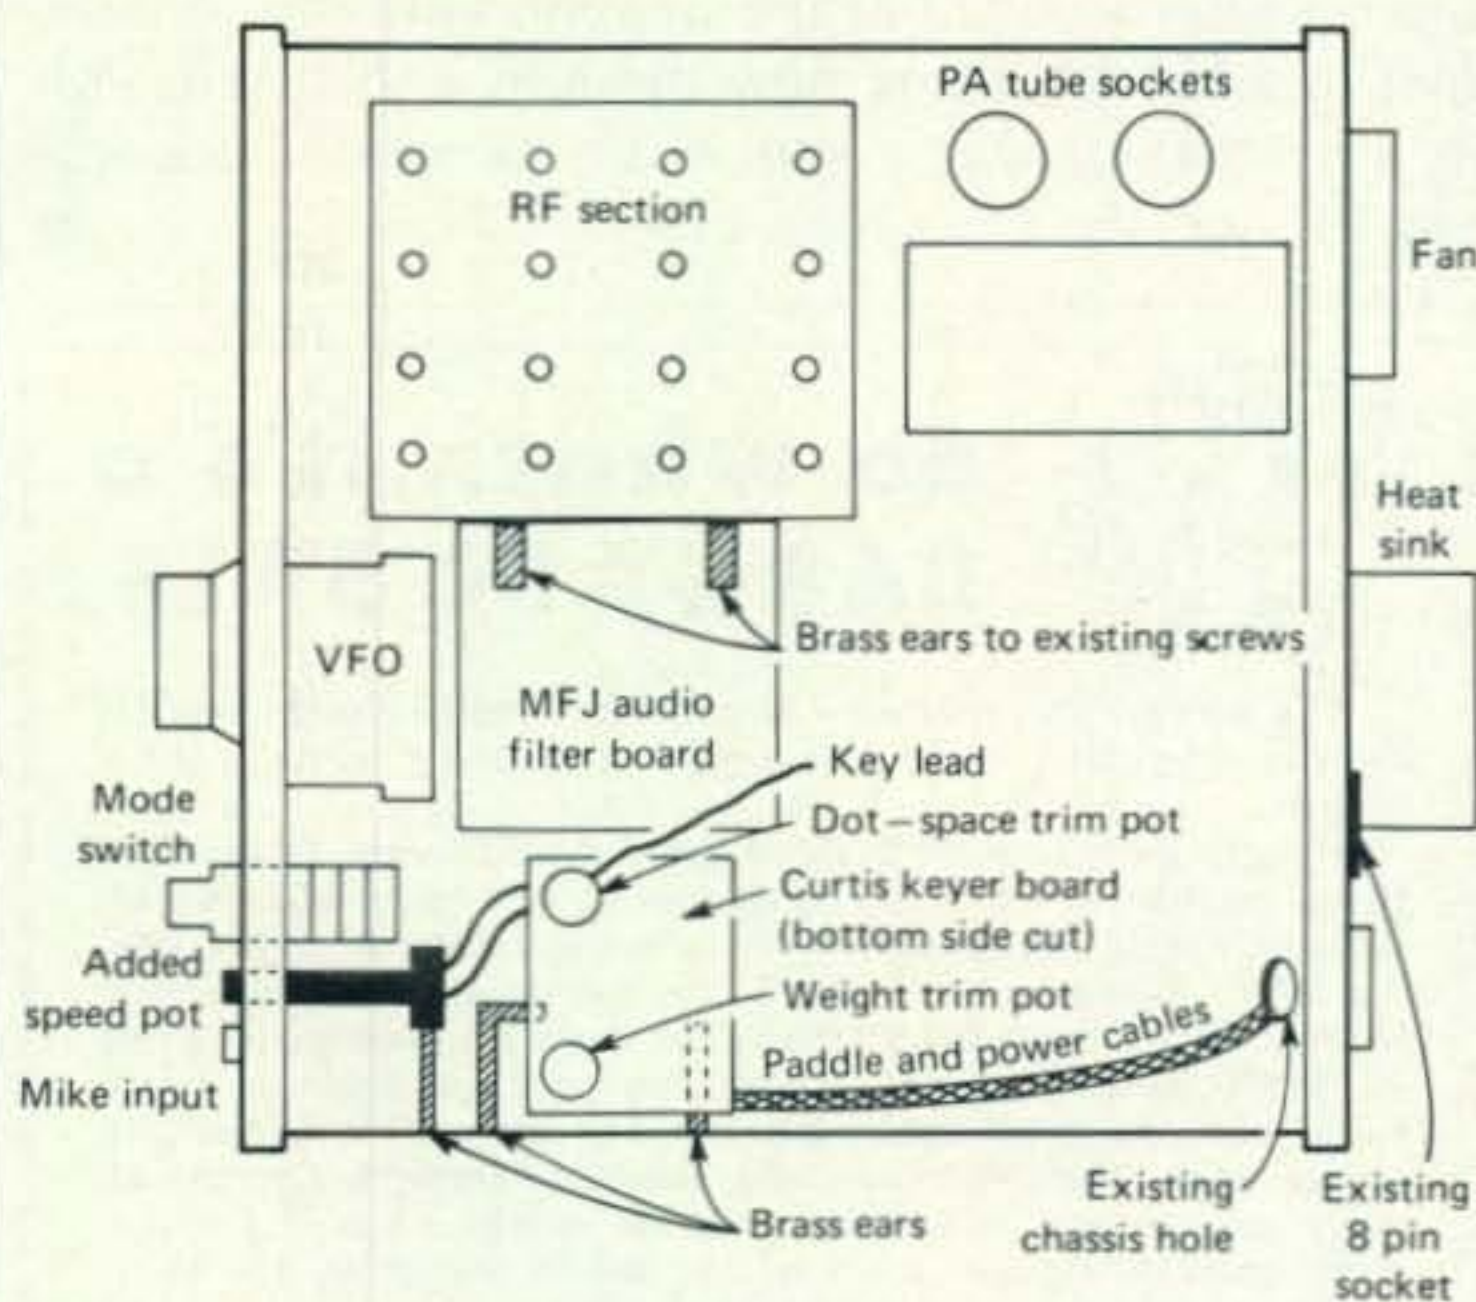

Fig. 1—Bottom view of the Kenwood TS-520 transceiver showing the locations of the MFJ audio filter and Curtis IC keyer PC board.
This point, as the text attempts to explain, deals only with off shore islands. The islands in question must be of the same administration as the mainland, and there must not be any other islands between the island or island group in question and the shoreline. In addition, the island or island group must be a minimum of 225 miles out. The rule point does not take into consideration the difference between two offshore islands or groups of islands (see fig. 1)
Figure 1 shows where the audio filter PCB was finally located. Note that the PCB is suspended by two ears attached to existing screws within the TS-520. The ears can be made from  $\frac{1}{4}$ " wide 0.050" thick pieces of brass plated strips available from
**Caution:** Precise location of this hole is necessary. If you goof, the pot will not fit within the cabinet or the shaft will interfere with mode switch. Allow room for the Speed pot knob to clear the mode switch knob for all mode positions. Clean out all metal chips after drilling. In our case a pot with a 2" long non-metallic shaft was chosen and mounted to a brass ear as shown in fig. 1.
The next task was location of the PCB and running of power and keying paddle leads to it. The best overall location was to mount it near the Speed pot as shown in fig. 1. Note that wirewrap terminal "Key" of the AF board (X49-0008-1) is right underneath this location. Connect a wire to it for the keying lead. Two brass strips were attached to the chassis and PCB as indicated. Make sure the keyer board clears the cabinet and chassis. Actual mounting is done after all leads have been run.
Fig. 1—Schematic of receiver preamp for the Heath HW and SB series transceivers. Coil  $L_1$  is 13 t. #24 d.c.c. closewound on a  $\frac{3}{8}$ " dia. slug-tuned form.  $L_2$  is 5 t. #24 d.c.c. closewound over bottom end of  $L_1$ . Note that #22 enamelled wire is a close replacement for #24 double cotton covered (d.c.c.) with respect to turns per linear inch. (Cotton covered magnet wire is becoming quite difficult to obtain.)